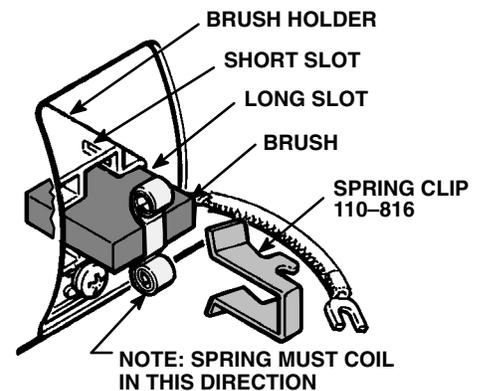

Fig 21-4
5. Install a new brush so the lead is in the long slot of the holder. See Fig 21-4. Slide the terminal under the terminal screw washer and tighten the screw. Be sure the motor lead is still connected at the screw. See Fig 21-4.
6. Place the spring on the brush as shown in Fig 21-4.